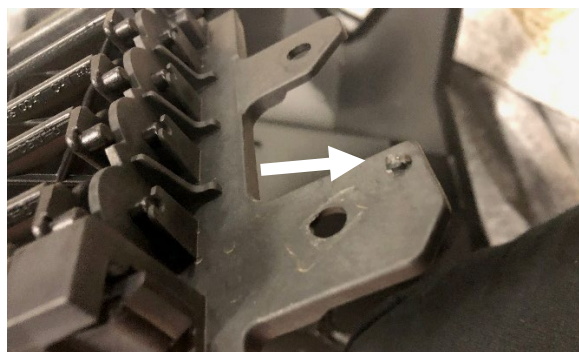

Figure 16
15. With the louvers removed, use a cutting tool to remove the plugs on both sides. (Figure 16)